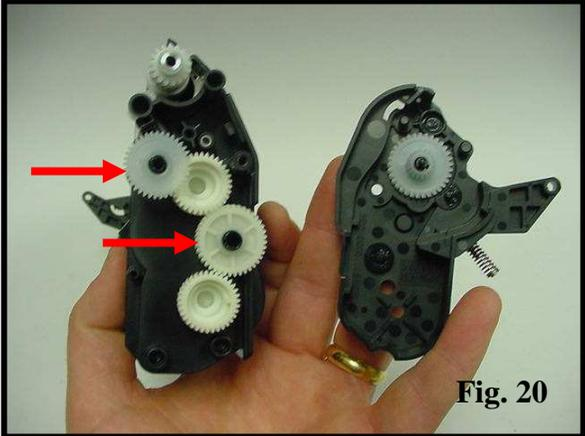

Fig. 18
18. Note the position of the spring on the shutter arm for reassembly (Fig. 18).